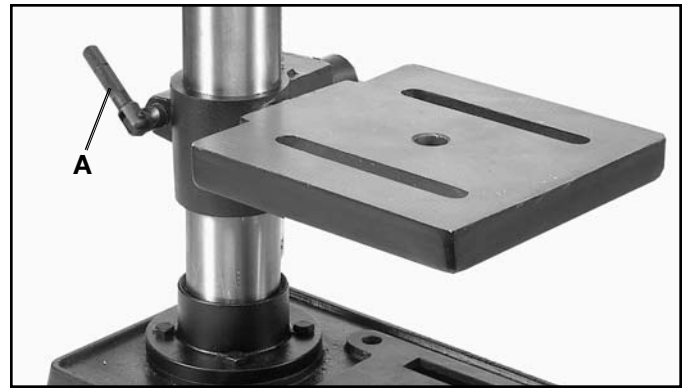
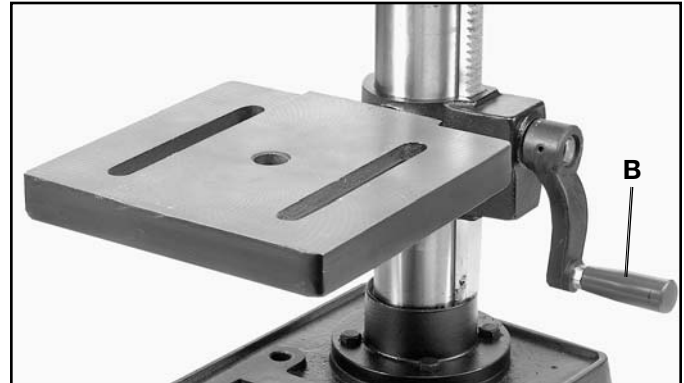

Fig. 27
Fig. 28
1. The table can be raised or lowered on the drill press column by loosening the table clamp handle (A) Fig. 27, and turning the table raising and lowering handle (B) Fig. 28. After the table is at the desired height, tighten handle (A) Fig. 27. **NOTE:** Final positioning of the drill press table should always be from the bottom to the up position.
2. The table can be rotated 360 degrees on the column by loosening clamp handle (A) Fig. 27, rotate table to desired position and tighten clamp handle (A).